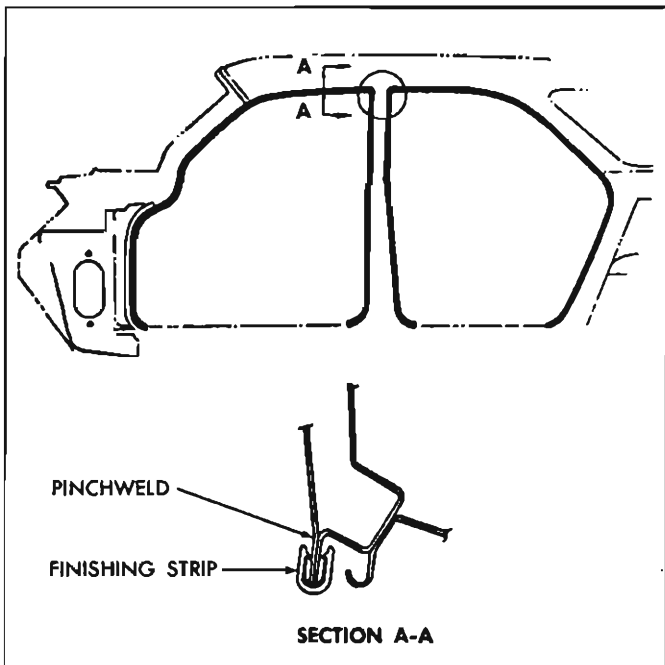

Fig. 6—Pinchweld Finishing Strip Installation
- To install, reverse removal procedure. A rubber mallet may be used if necessary. Figure 6 shows the installation of a finishing strip assembly on "69" styles but is typical of all styles.